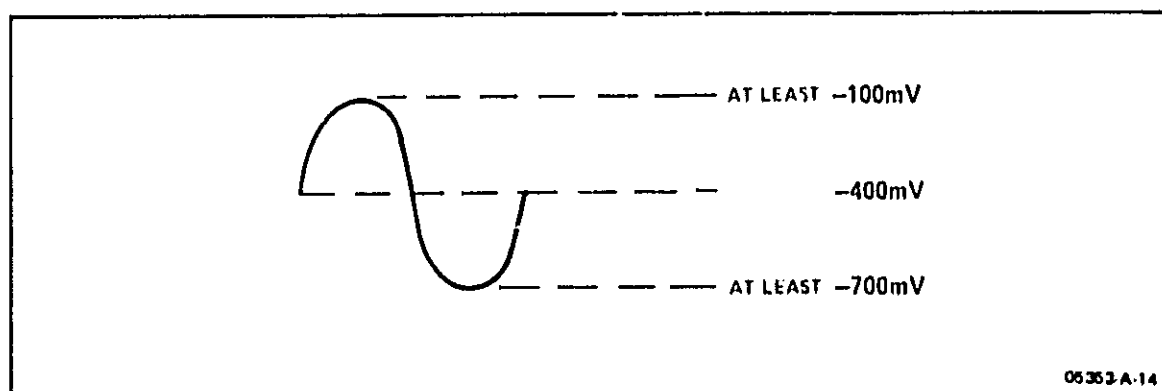

Figure 5-2. 50% Duty Cycle Adjust, A4 Gate Assembly
6. Adjust oscilloscope display so that ground is at the top graticule and the center graticule is at -0.4 Vdc. Connect oscilloscope cable to A4J2(PA) for A adjust, or to A4J1(PC) for the C adjust.
10. Adjust A4R18 (A ADJ) or A4R19 (C ADJ) for a 50% duty cycle as displayed on the oscilloscope. Display should be as shown in Figure 5-2.